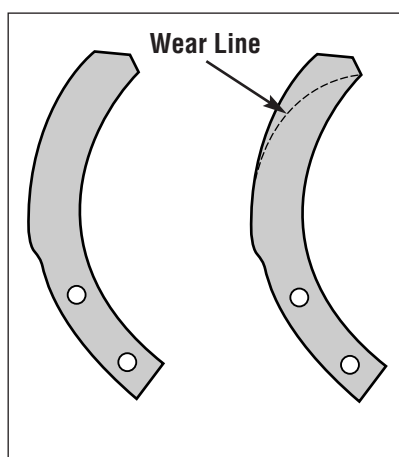

Figure 17: New and worn tines.
Inspect tines after the **first 10 to 15 hours** of tiller operation and then after **every 10 hours**. See Figure 17.
Compare your tines to those shown in Figure 17 to decide whether your tines need replacement. Your tines should be replaced when the following conditions occur:
- ☐ Tines are worn beyond the line shown in Figure 17.